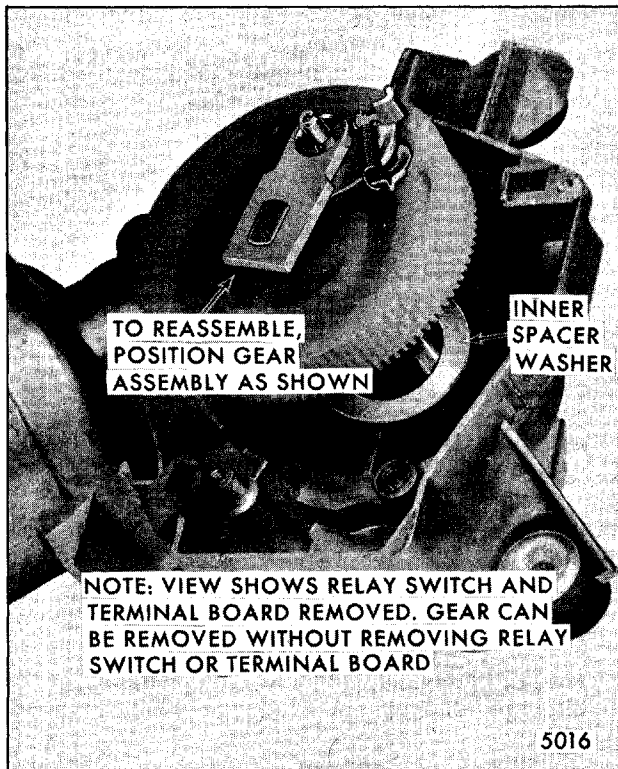

Fig. 2-68-Removing Gear
4. Slide gear assembly out of housing (Fig. 2-68).
6. Assemble inner spacer washer over gear shaft and assemble gear mechanism in housing so that it is positioned with respect to the housing in the approximate location shown in Figure 2-68.